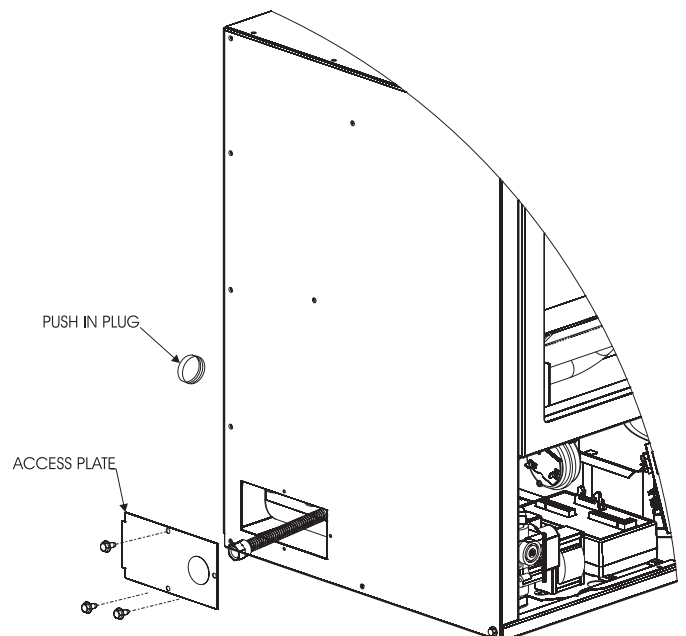

Figure 56
1. Remove the access plate on the left side of the cabinet by removing three screws as shown in Figure 56. Put the screws aside.
4. Visually verify the burners are free of dust and debris. See Figures 56 and 67.